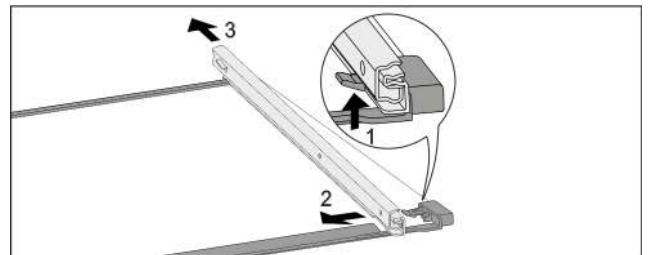

Fig. 104 Glass shelf with rails
- ▶ Push up front click-in hooks. Fig. 104 (1)
- ▶ Slide pull-out rails to the side Fig. 104 (2) and backwards Fig. 104 (3).